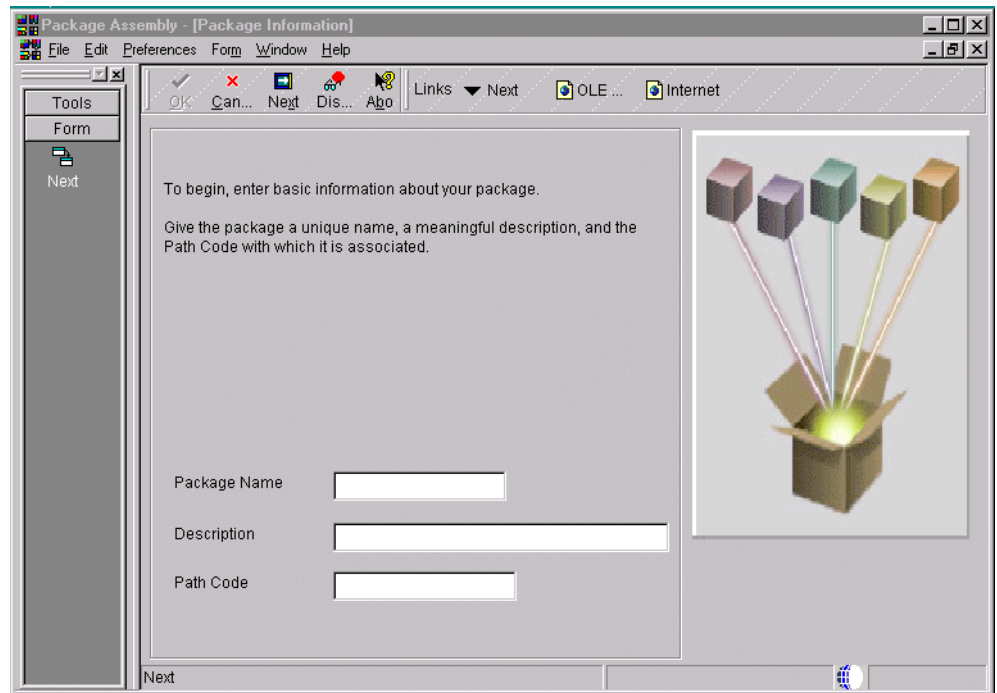

Figure 142. Package Information form
3. On the Welcome display, click **Next**. The Package Information form appears (Figure 142).